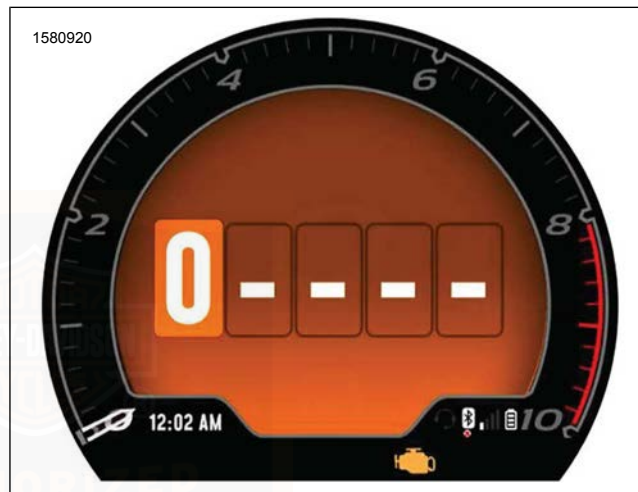
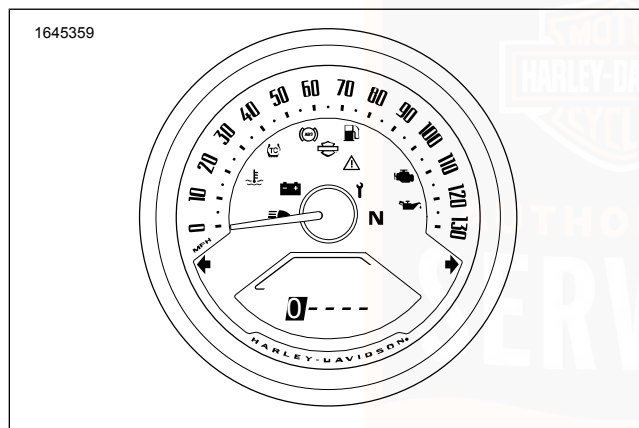

Figure 25. PIN Entry Screen (With Infotainment)
Figure 26. PIN Entry Screen (Without Infotainment)
- c. See Figure 25. The PIN screen will display.
- d. Press right turn signal switch 1 time and release. Turn signals will flash 3 times. See Figure 26. Current PIN will appear in odometer display. The first digit will be flashing.
1. See Figure 25 and Figure 26. Select the first digit of the PIN.